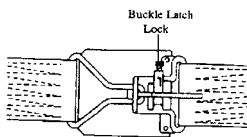

Figure 6-7 Fixed-Wing Buckle Latch Lock
- Fixed-Wing Aircraft Safety Belt: NSN 1680-01-HR1-2562, P/N 550-30. The fixed-wing aircraft safety belt is different from the rotary wing harness in that it has a static line type snap-hook for anchoring the wearer to the airframe, additionally, it has a buckle latch lock (see figure 6-7). This lock prevents inadvertent opening of the buckle while it is being worn.